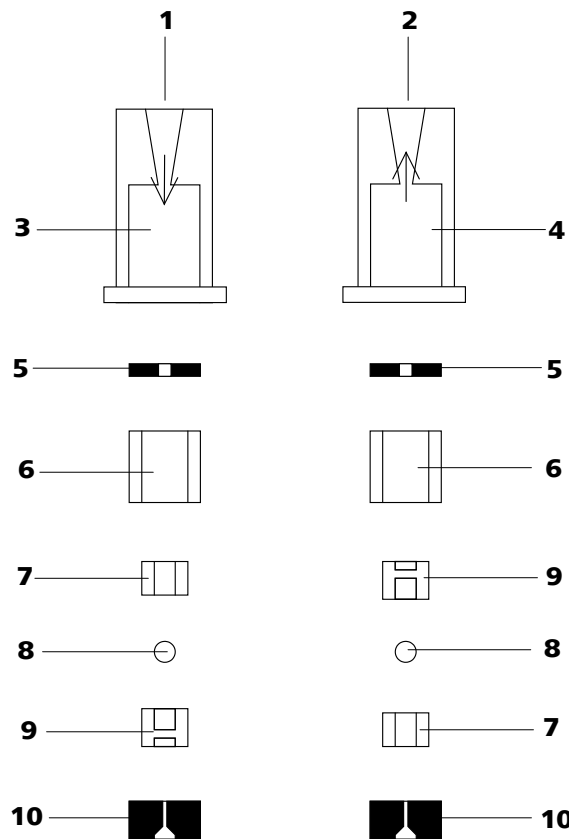

Figure 33 Components of the inlet valve and outlet valve
- The inlet valve and the outlet valve consist of the same, just differently arranged components (see Figure 33, page 51).
Reassemble valve components *according to figure 33, page 51*.
- Lay the other valve components above another in the correct sequence (*see Figure 33, page 51*).
If this is not the case, the valve has to be dismantled again and be assembled correctly (see *Figure 33, page 51*).